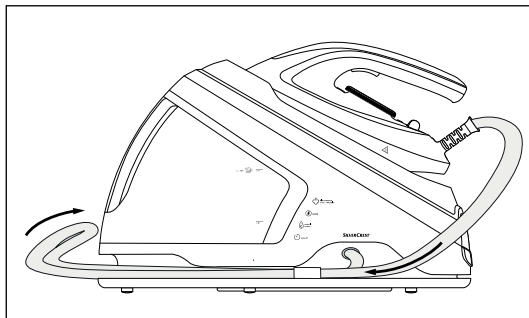
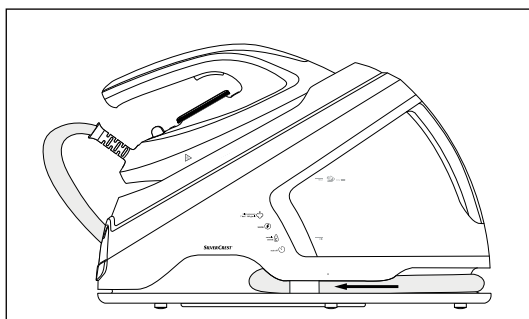

Fig. 15
Fig. 16
- ◆ Fold the connecting hose **5** in the middle and push it into the recess in the base station (see fig. 15 and fig. 16).